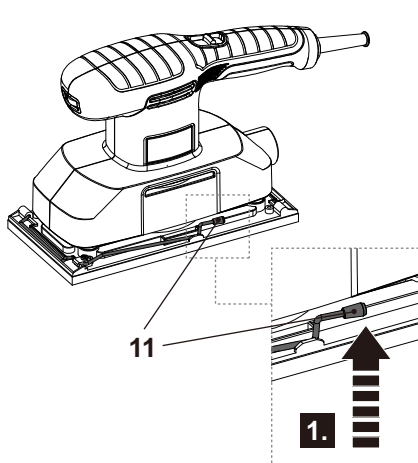

Fig. 3
- > Pull the clamp lever (11) upwards to disengage it (Fig. 3, step 1).